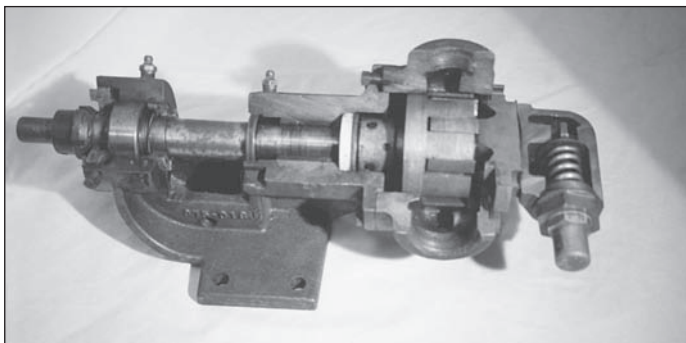

Figure 4.20
A Danish-American inventor, Jens Nielsen, invented the internal gear (IG) pump in 1915. Process technicians refer to the internal gear pump as the “gear-within-a-gear pump.” Internal gear pumps operate with only two moving parts: a power gear driving an internal idler gear (Figures 4.20 and 4.21). When the power gear rotates, liquid enters the pump through the suction line. Since the pump is self-priming, the voids between the teeth of the power gear and the off-center idler gear fill with liquid. During rotation, liquid is separated by a crescent-shaped spacer. Liquid is pressed into the spaces above and below the crescent. As the gears rotate around the circular pump casing, the liquid is discharged out of the pump. The main components of an internal gear pump are a power gear or rotor; an idler gear; an idler pin; a driveshaft; a circular casing; the crescent, axial, and radial bearings; seals; and a relief valve. The idler gear rotates freely on a cylindrical idler pin. A main bearing and a second bearing